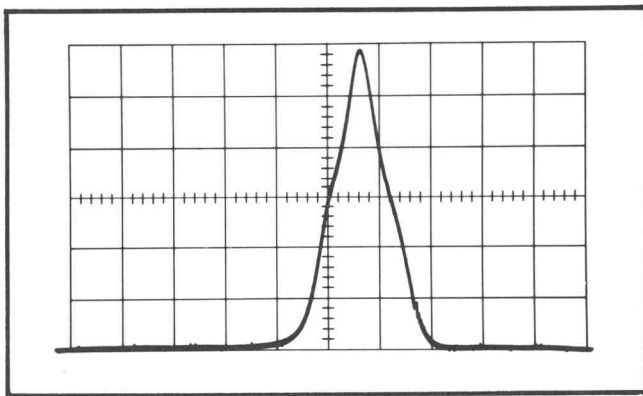

Fig. 6-9. Typical spectrum display for adjusting C610 (Step 4f).
f. Remove the probe and adjust C610 for equal curves at the base of the spectrum display (see Fig. 6-9).